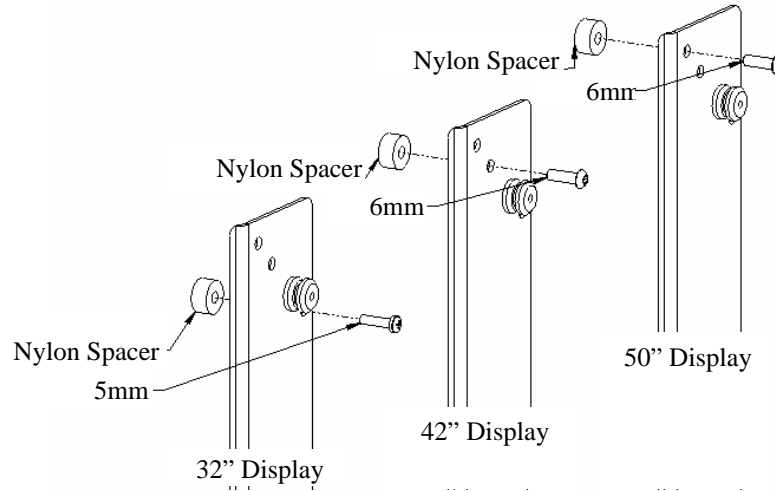
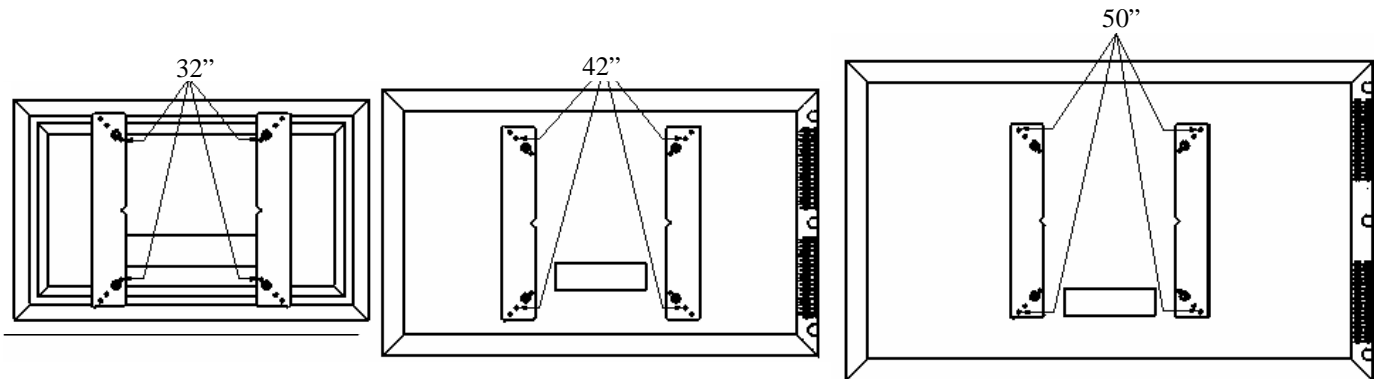

Figure 4. Bracket Hole Location
Figure 5. Bracket Attachment Location
- 3. Attach mounting brackets to the display using the M5 screws for 32" screen or M6 for the 42" and 50" screens (see Figure 4 and Figure 5).